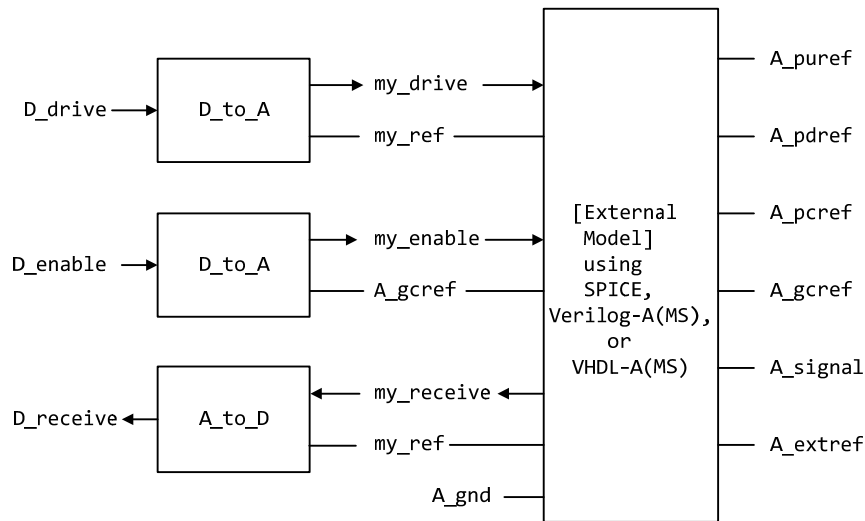

Figure 24 - Example of an [External Model] I/O Buffer Using SPICE, Verilog-A(MS), or VHDL-A(MS)
A conceptual diagram of the port connections of a SPICE, Verilog-A(MS) or VHDL-A(MS) [External Model] is shown in Figure 24. The example illustrates an I/O buffer. Note that the drawing implies that the **D_receive** state changes in response to the analog signal **my_receive**, not **A_signal**: